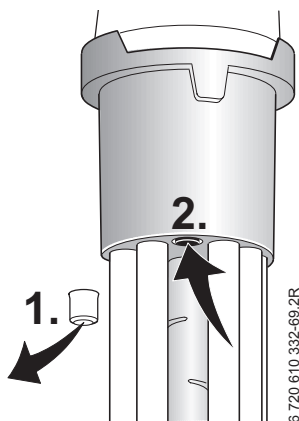

Fig. 47
- Unscrew the two fixing screws and carefully remove the electrode assembly. Refer to fig. 47.